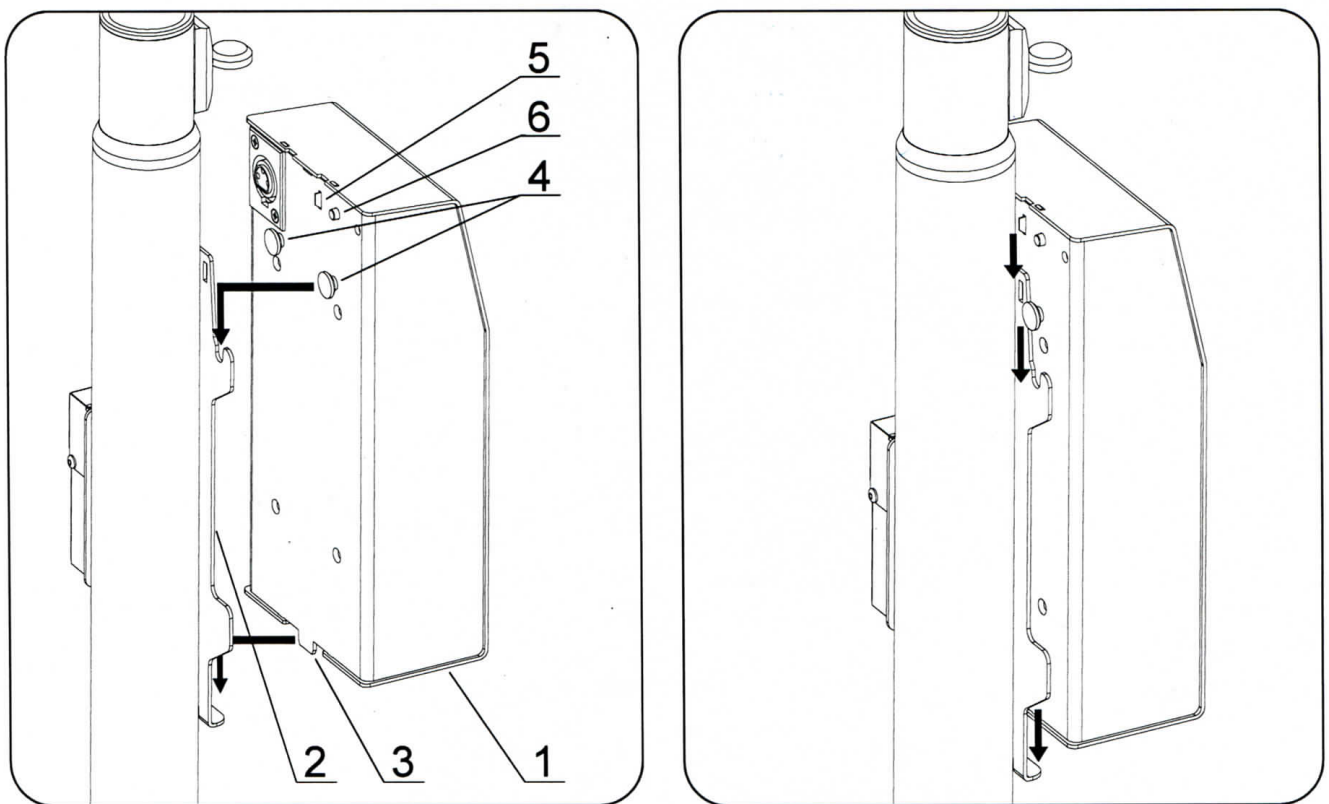

Figure 3 – Mounting of the PSU onto the telescopic leg
a) Place the PSU 1 (fig. 3) relative to the mounting plate 2 onto the telescopic leg so that the top hitches 4 and lower lug 3 on its casing are situated slightly under the corresponding slots on the mounting plate, as shown on the figure 3.